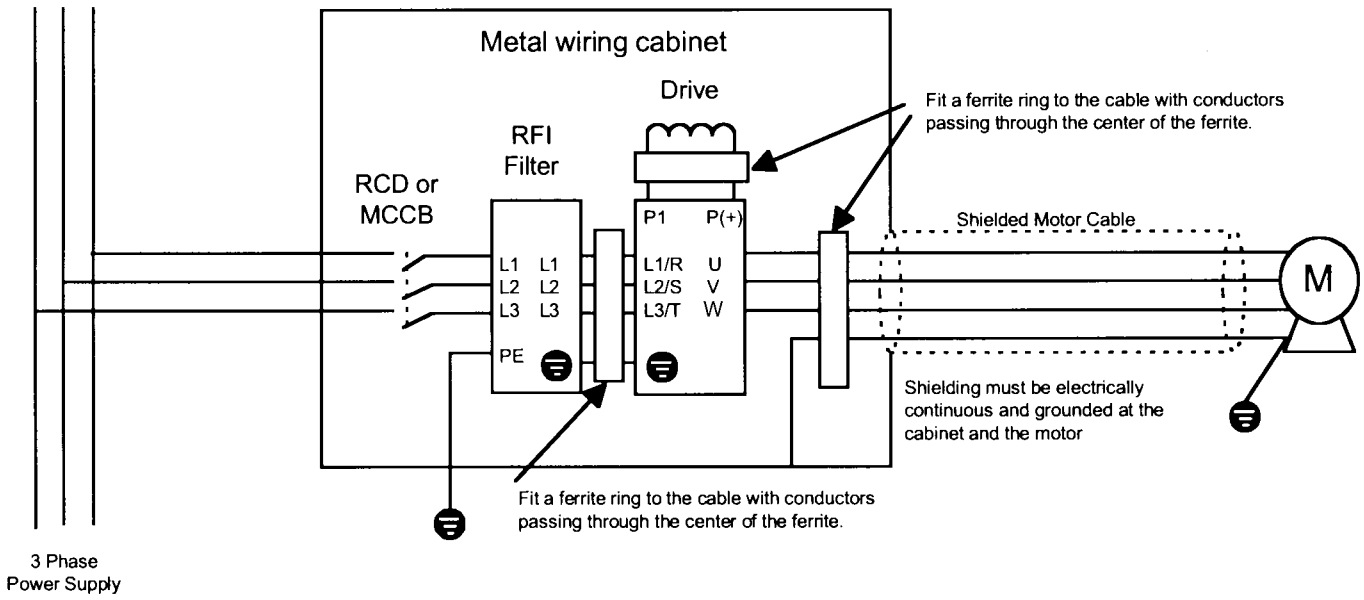

Figure 7 AF-300 P11 460V 500 Hp and higher
- 6) In the case where a ferrite ring is provided with the filter, fit the ferrite ring so the conductors pass through the center of the ferrite. Wire the cable according to Fig.6 or Fig.7 , paying attention to the applied Drive type.